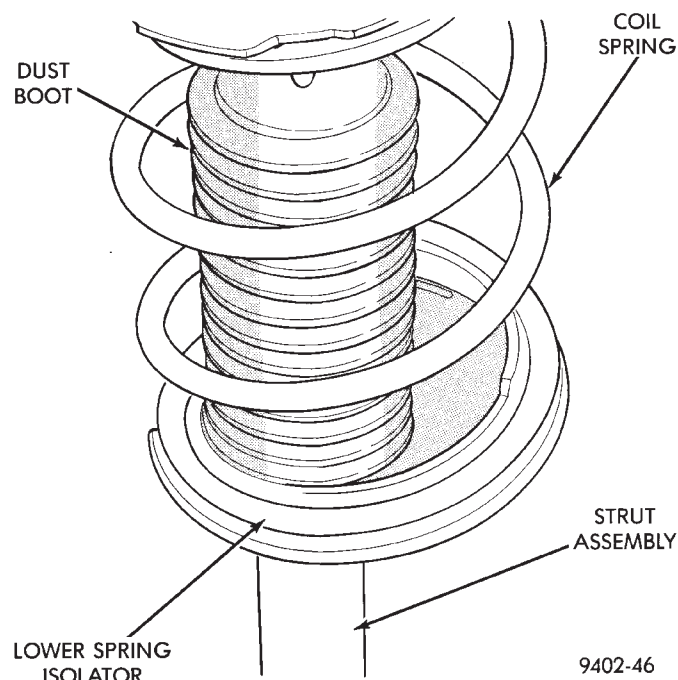

Fig. 3 On Vehicle Strut Assembly Inspection
- (1) Inspect for damaged or broken coil springs (Fig. 3).
- (2) Inspect for torn or damaged strut assembly dust boots (Fig. 3).
- (3) Inspect for damaged lower spring isolator (Fig. 3).